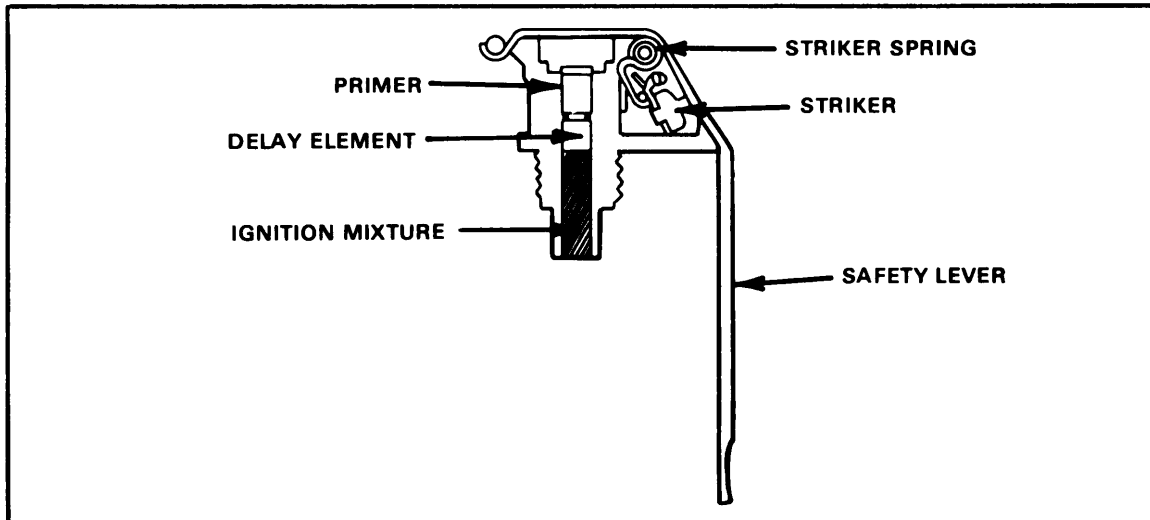

Figure 1-7. M201A1 fuze.
(1) M201A1 fuze (Figure 1-7). This fuze is designed for use with the AN-M8HC white-smoke grenade, the AN-M14 TH3 incendiary grenade, and the M18 colored-smoke grenade. This fuze is interchangeable with any standard firing device. The fuze function is described in